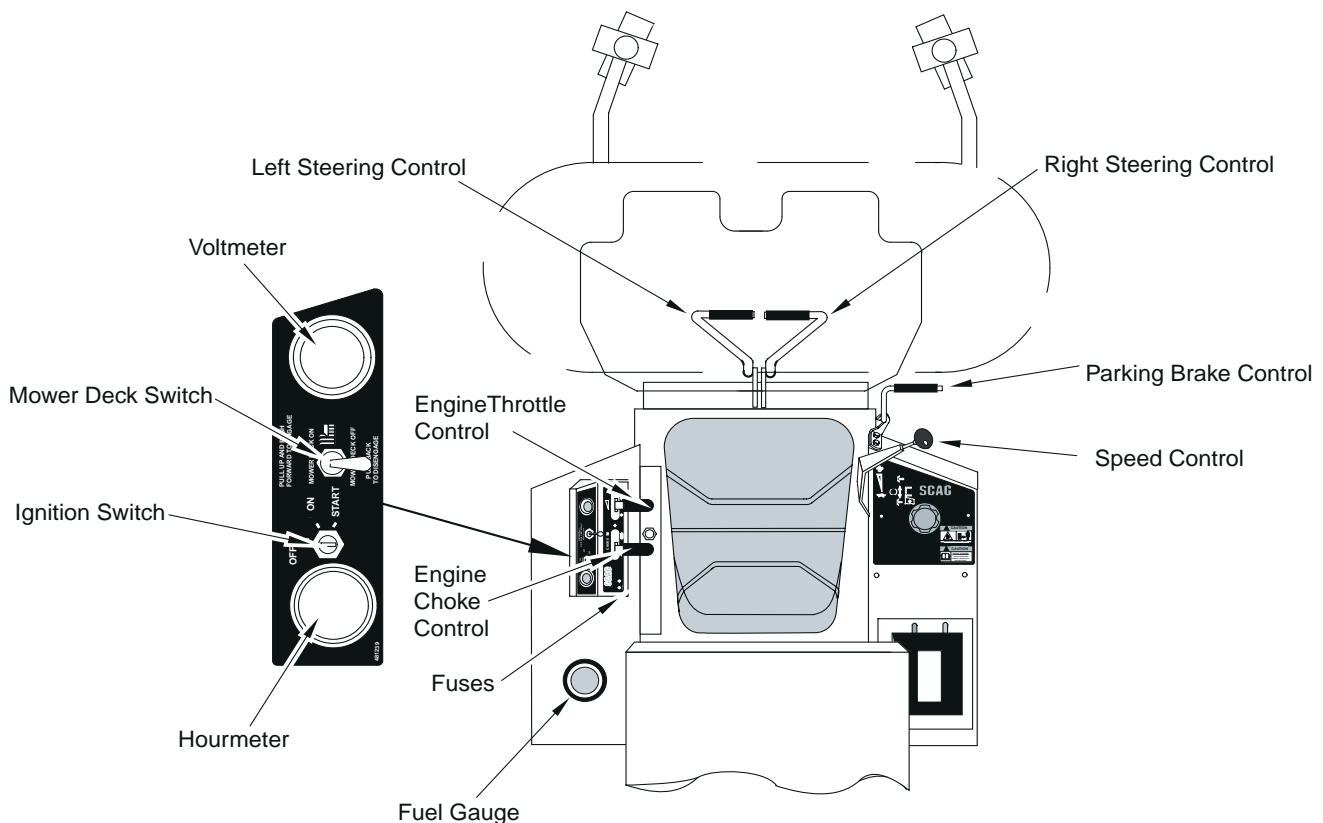

Figure 4-1 Controls and Instruments
1. **Ignition Switch (Figure 4-1).** The ignition switch is used to start the engine and has three positions; OFF, ON, and START.
2. **Mower Deck Switch (Figure 4-1).** Used to engage and disengage the mower drive system. Pulling the switch lever up and then pushing the switch lever forward will engage the deck drive. Pulling the switch lever back will disengage the deck drive.
3. **Engine Choke Control (Figure 4-1).** Used to start a cold engine.
4. **Engine Throttle Control (Figure 4-1).** Used to control the engine speed. Pushing the lever forward increases engine speed. Pulling the lever back decreases engine speed. Full back position is the IDLE position. Full forward is the cutting position.
5. **Ammeter (Figure 4-1).** Indicates the condition of the charging system. When the engine is running the needle should be at the positive end of the meter. If the needle is on the negative end of the meter, this indicates a discharge condition and the machine should be taken in for service.
6. **Hourmeter (Figure 4-1).** Indicates the number of hours the engine has been operated. It operates whenever the ignition switch key is in the ON position. It can be used to keep track of maintenance intervals and the amount of time required to perform various tasks.
7. **Fuse Holders (Figure 4-1).** Two 20-amp fuses protect the mower's electrical system. To replace fuses, pull fuse out of the socket and install a new fuse.
8. **Left Steering Control (Figure 4-1).** Used to control the mower's left wheel when traveling forward or reverse.
9. **Right Steering Control (Figure 4-1).** Used to control the mower's right wheel when traveling forward or reverse.
10. **Parking Brake Control (Figure 4-1).** Used to engage and disengage the parking brakes. Pull the lever back and lock in place to engage the parking brakes. Pull the lever back and move to the left to disengage the parking brakes.
11. **Fuel Tank Gauge (Figure 4-1 & 4-4).** Indicates the amount of fuel in the fuel tank.